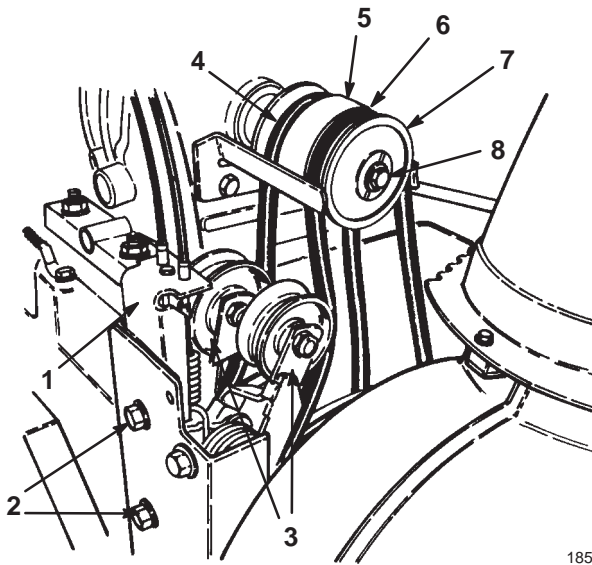

Figure 30
If the auger/impeller drive belt or the traction drive belt (Fig. 30) becomes worn, oil-soaked, or otherwise damaged, replace the belt.
5. Remove the 2-flange bolts that secure the idler pulley assembly to the engine frame and remove idler pulley assembly (Fig. 30).
6. Remove the bolt and the lock washer that secure the half sheave to the front of the pulley assembly (Fig. 30).
7. Slide the half sheave and auger/impeller drive belt off the crankshaft and remove the belt (Fig. 30).
8. If you need to replace the traction drive belt, slide the middle pulley section and the belt off the crankshaft, and remove the belt from the pulley (Fig. 30).
10. If you replace the traction drive belt, install it around the traction drive and the middle pulley section, and slide the middle pulley section onto the crankshaft (Fig. 30).
11. Install the traction drive belt on the idler pulley (Fig. 30).
12. Install the auger/impeller drive belt around the half sheave, and slide the half sheave onto the crankshaft (Fig. 30).
14. Install the idler pulley assembly on the engine frame and secure it with the 2 flange-head bolts (Fig. 30).